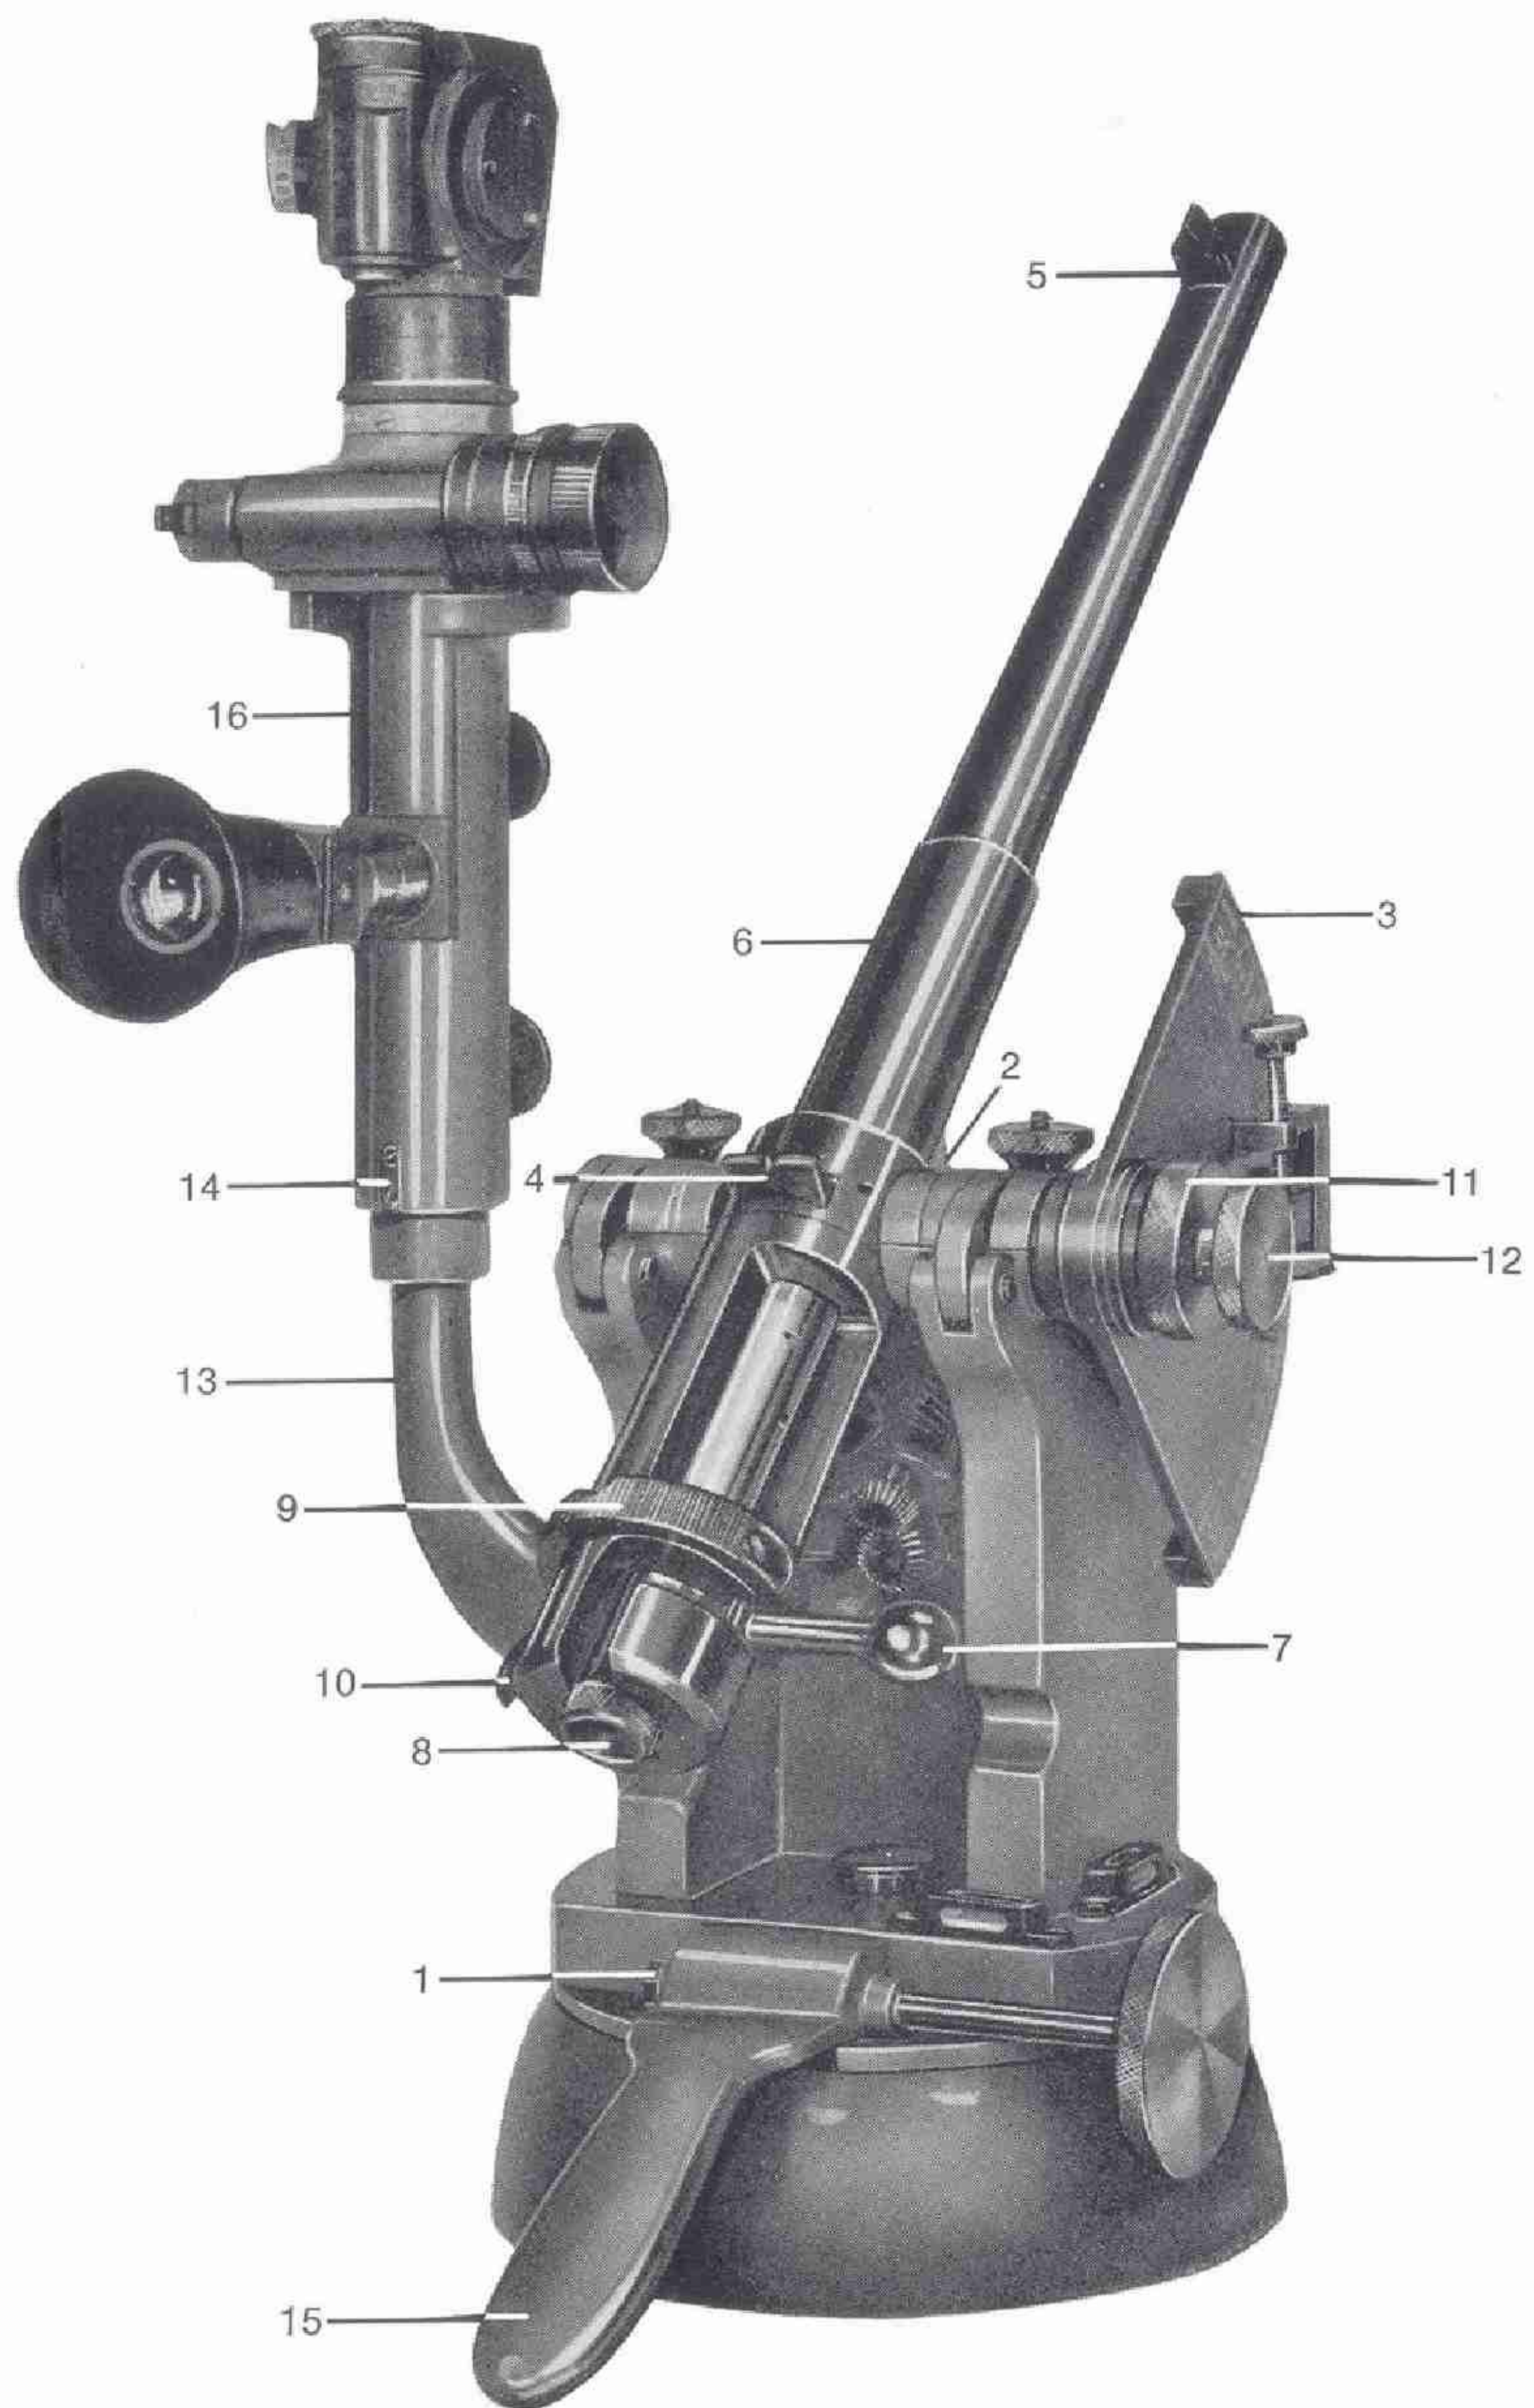
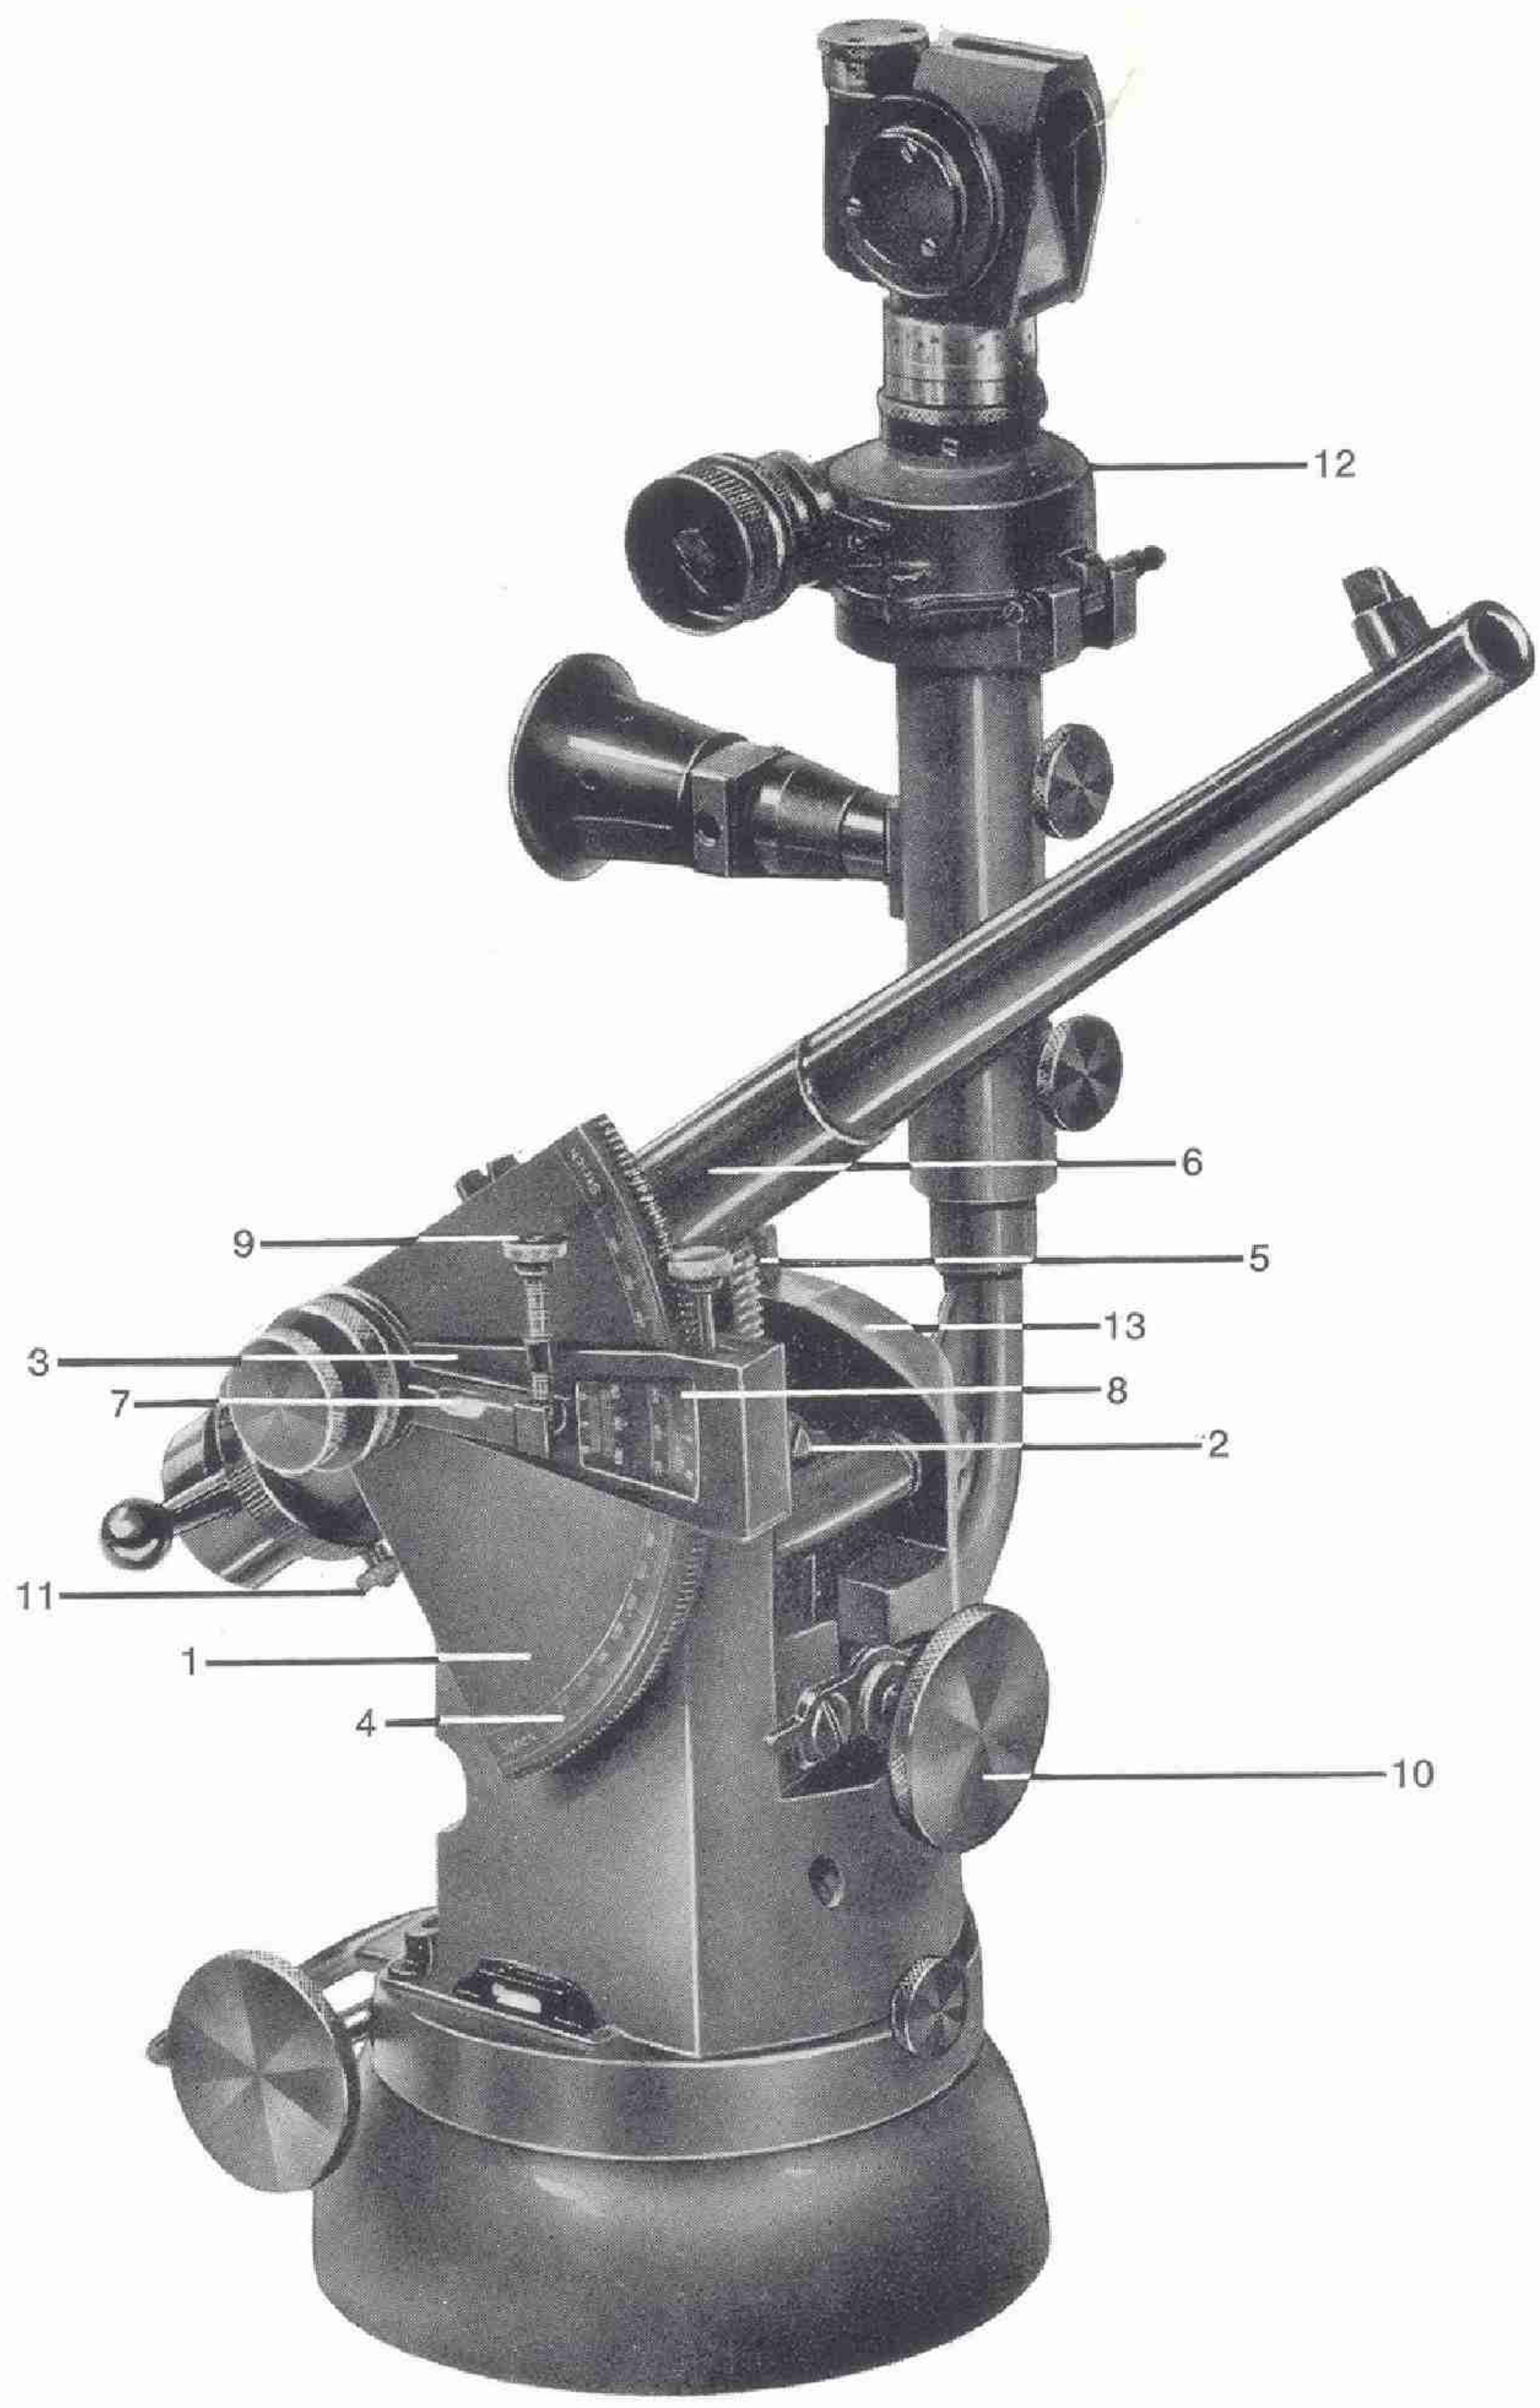

FIGURE 4 MOUNT GROUP WITH BARREL
FIGURE 5 MOUNT GROUP WITH BARREL
4. **The Barrel with Breech** (figs. 4 and 5)
The trigger mechanism consists of a single spring-loaded lever with a sear (guide bolt) which is mounted on the left hand side and to the rear of the receiver (fig. 4–10). The rotatable safety ring (fig. 4–9) fits round the receiver. The safety ring is fixed by two lateral safety stop screws and by the bolt lock (fig. 5–11) which is located on the bottom of the receiver. For placing at “safe” the safety ring is turned to the left until it is stopped by the safety stop screws. In this position the trigger is blocked. The marking of the safety ring points to the white letter “S” of the receiver. If the safety ring is turned to the right so that its marking points to the red letter “F”, the trigger can be pulled for firing.
The bolt consists of breech bolt, breech bolt lever (fig. 4–7), firing pin, firing pin spring, detent spacer, breech bolt screw, firing pin spring guide (fig. 4–8) and extractor.
5.1.1. The **Elevation Scale** (fig. 5–1) has the form of a quadrant, it is marked with 1.600 mils.
5.1.2. The **Setting Slide** (fig. 5–2) is moved across the mils marks of the elevation scale by means of a swing-out worm drive with shaft and knurled knob screw (fig. 5–5).
Upon lateral pressure against the knurled knob screw the worm is disengaged from the gear rim of the elevation scale (fig. 5–6) for rough setting of the elevation angle. If the pressure is released the worm automatically re-engages with the gear rim due to spring pressure. Then the setting slide can only be moved by turning the knurled knob screw for precision setting of the barrel elevation angle. With the help of the vernier sliding across the mils marks inside the window the elevation angle can be set with an accuracy of 1°.